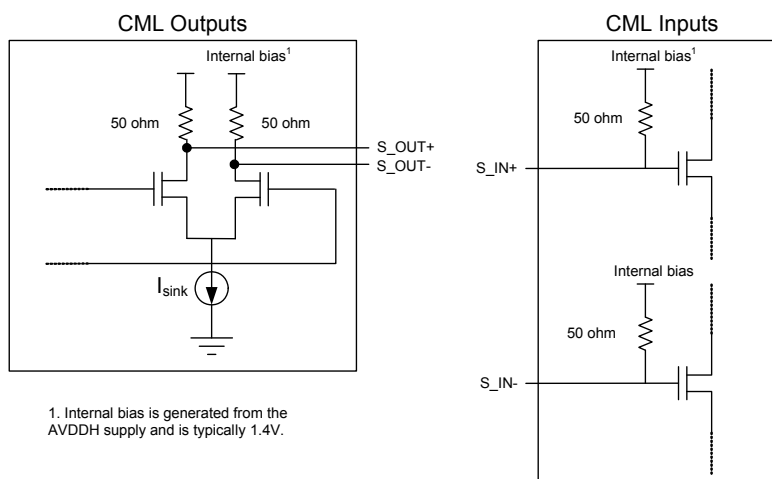

Figure 20. CML I/Os
- Internal bias. See Section 3.2.5 and Figure 20 for details. (If AVDDH is used to generate the internal bias, the internal bias value is typically 1.4V.)